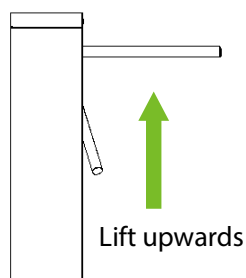

Figure 2-3
3. Lift the arms manually, as shown in Figure 2-3.